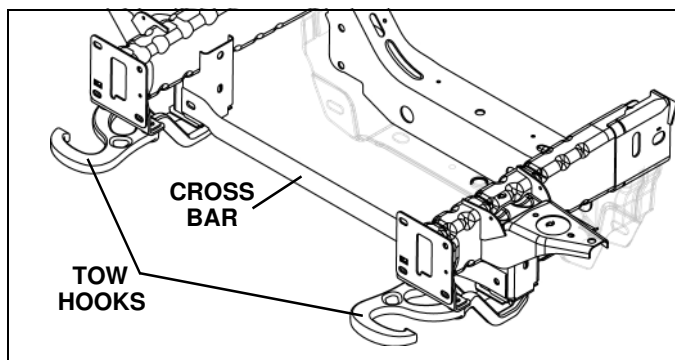

Figure 1
2. Remove tow hooks and cross bar (if equipped) and retain with hardware for reinstallation if vehicle mount is ever removed. (See Figure 1)